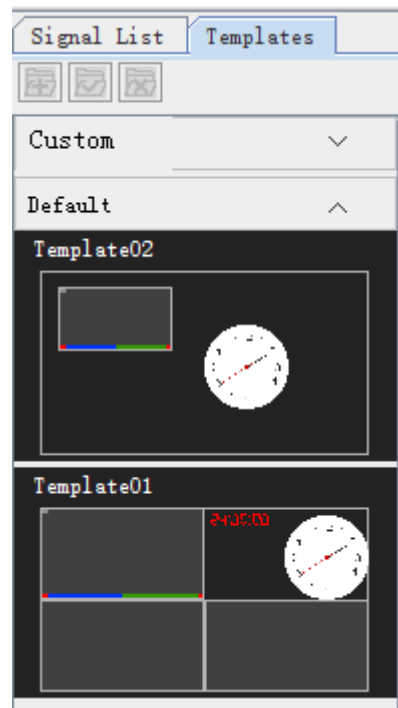

Figure 2.3-18 *Templates for a Layout*
- **Templates:** It provide some templates in the Templates pane, including default templates and customized templates, as shown in **Figure 2.3-18**: